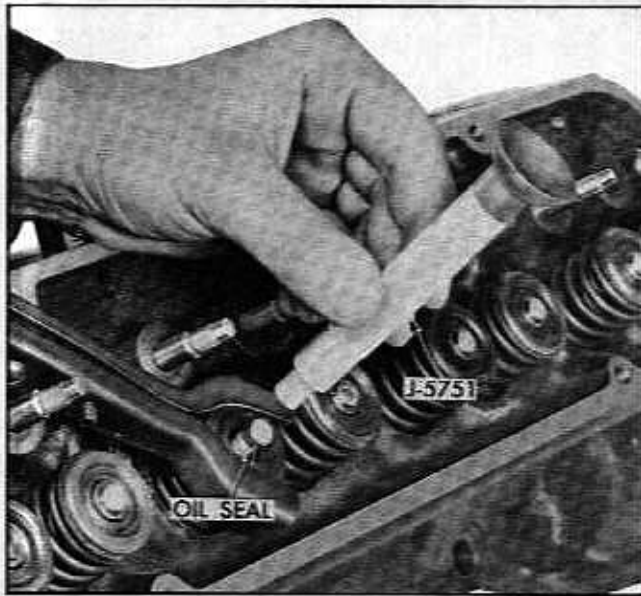

Fig. 6-47 Installing Intake Valve Stem Seal
2. Install valves, valve springs, intake valve stem shields, valve spring retainer cups, and retainer cup locks using suitable spring compressor. On intake valves, the new intake valve stem seal must be installed in the second groove (from end of stem). Valve Stem Seal Installer and Tester J-5751 can be used to install this seal (Fig. 6-47).